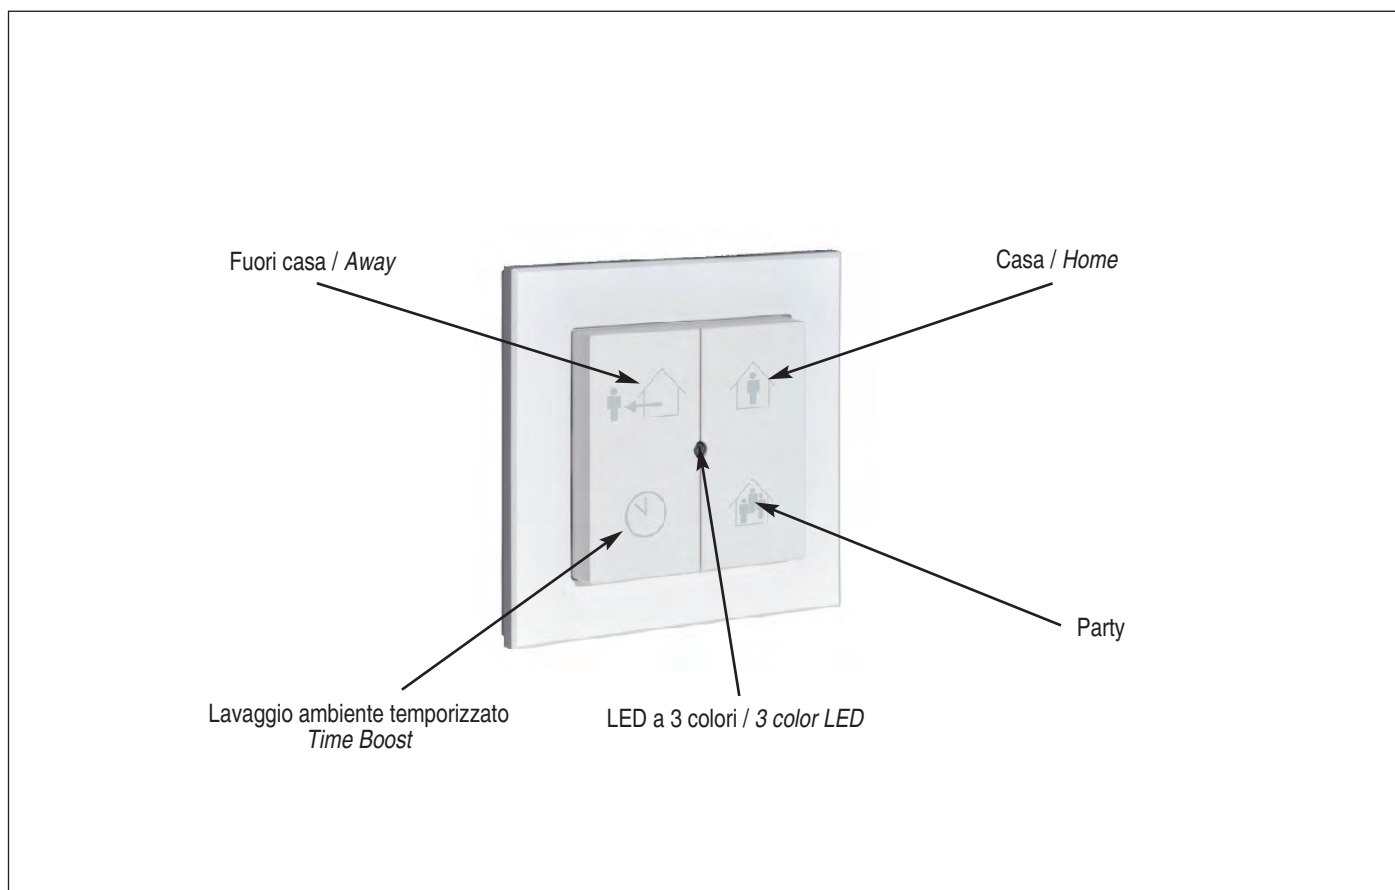

fig. 21
5.2 DESCRIZIONE INTERFACCIA A QUATTRO TASTI (FIG. 21)
5.2 FOUR-KEY INTERFACE DESCRIPTION (FIG. 21)